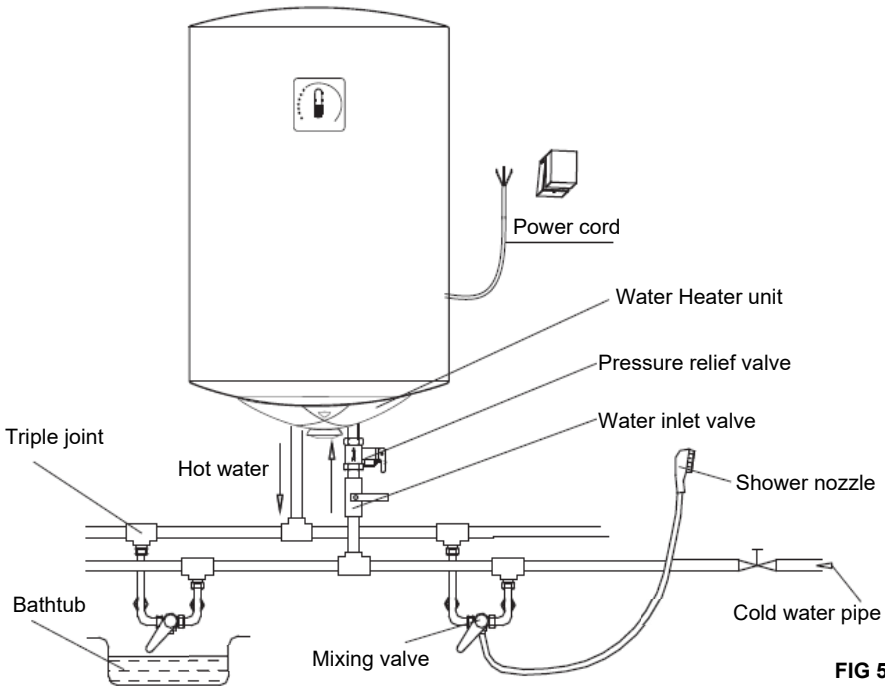

FIG 5
4. If the users want to realize a multi-way supply system, refer to the method shown in fig.5 for connection of the pipelines.